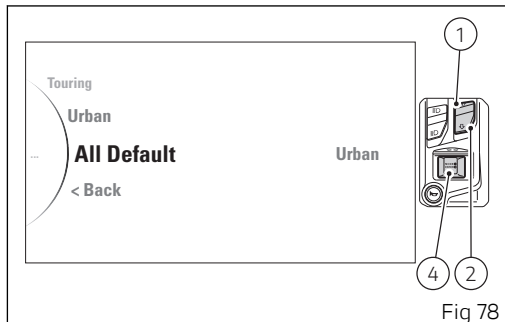

Fig 78
- select "All Default" (Fig 78).